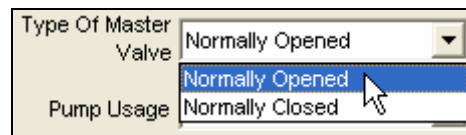

Figure 16.3.3A
2. Click on the **Type Of Master Valve** box and select from the drop down list the type of Master Valve that you have for this controller (Figure 16.3.3A).